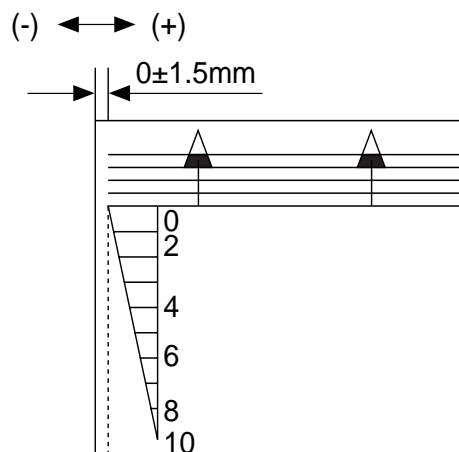

Figure 4-308
Make adjustments so that the image position is as indicated in Figure 4-308 when the Test Sheet is copied in Direct.
- CW direction: moves the paper in the direction of – in Figure 4-308
- CCW direction: moves the paper in the direction of + in Figure 4-308